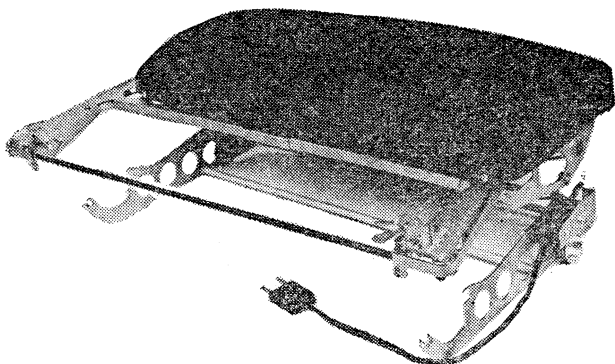

Figure 2. IBM Hektowriter Attachment
The IBM Hektowriter has been developed to permit the production of a hectograph master simultaneously with normal typing. This is accomplished by means of a special second ribbon (spirit carbon coated) positioned between the platen and the paper. This ribbon feeds after each type stroke, but not during space bar operation, tabulation, carriage return, backspace, or hand carriage release. The device is designed to be field installed on Model B Standard and Executive ET's with 16" carriages (Figure 2).
9. Latch the auxiliary carriage in operating position on the platen shaft. The latches are operated by pressing and releasing the two pairs of detent levers projecting at the front of the auxiliary carriage (Figure 2).